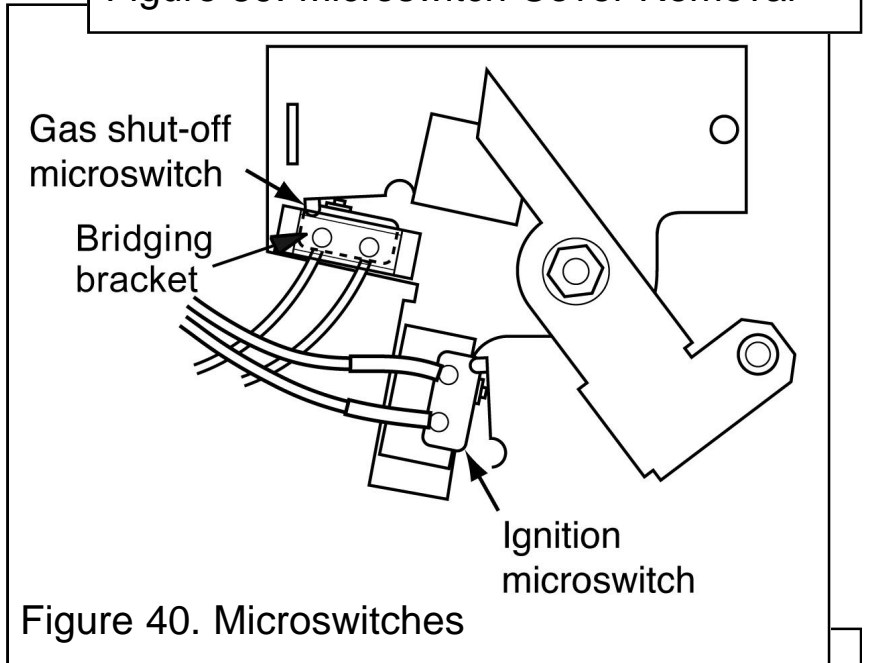

Figure 40. Microswitches
3. Disconnect the leads from the ignition microswitch (The lower of the two microswitches - See figure 40).
4. Detach the bridging bracket, microswitch assembly by removing two screws. See figure 40.